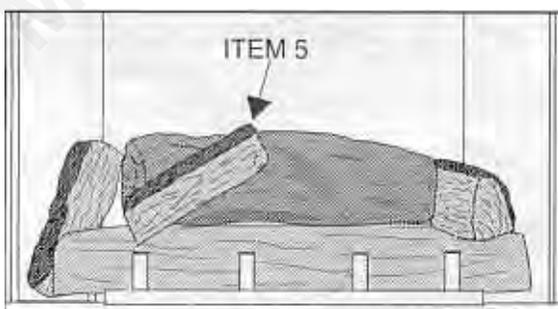

Figure 65
6. See Figure 65. Position (Item 5) next, with the "bark" to the left. Place one end of the log in the indentation on the far left of the Front Log. The opposite end will lay on the Back Log, almost near the middle of the Back Log.